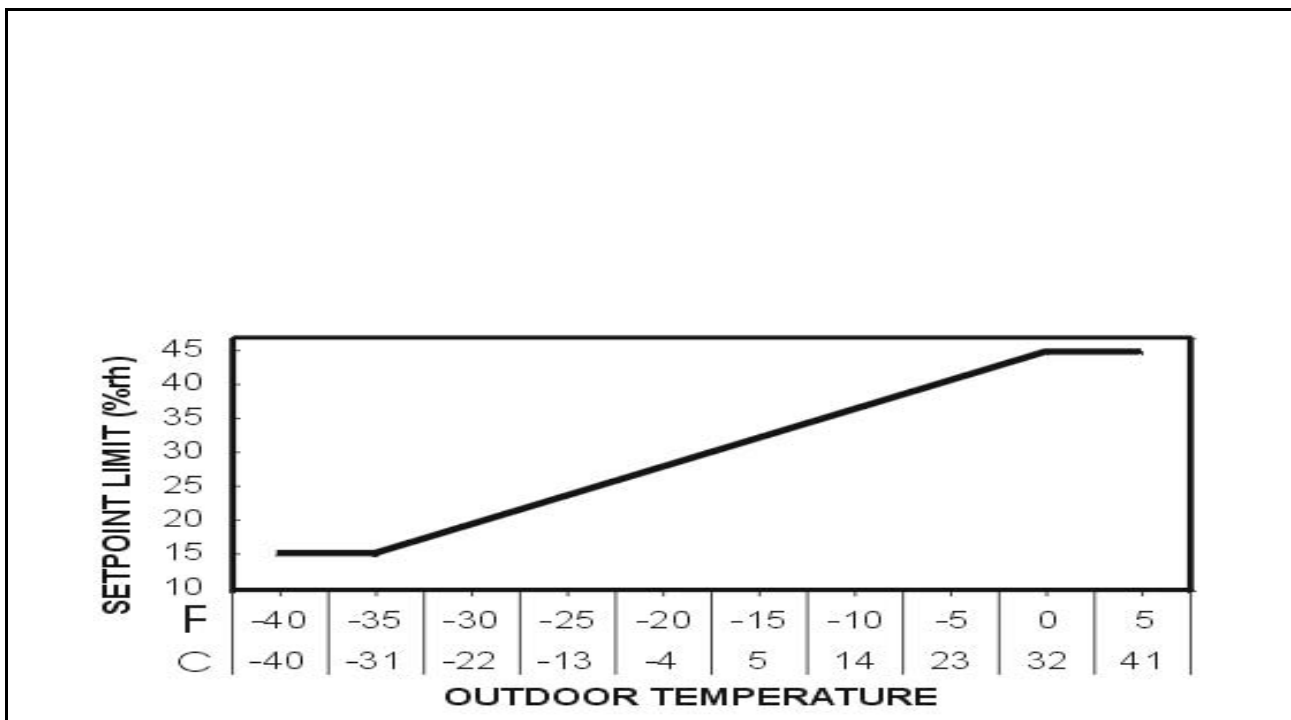

Figure 29. Set Point Versus Outdoor Temperature
- (1) The outdoor temperature setback sensor is used to prevent condensation on windows or other surfaces that are adjacent to outdoor air. This sensor can be used in conjunction with the NORTEC controls mentioned above (both the on/off and modulating demand signal controllers) The sensor allows the controller to override the set point to prevent the humidifier from humidifying when condensation could be possible. (See Figure 29.) Locate the temperature sensor near the fresh air intake. This will ensure accurate representation of the outdoor air temperature.